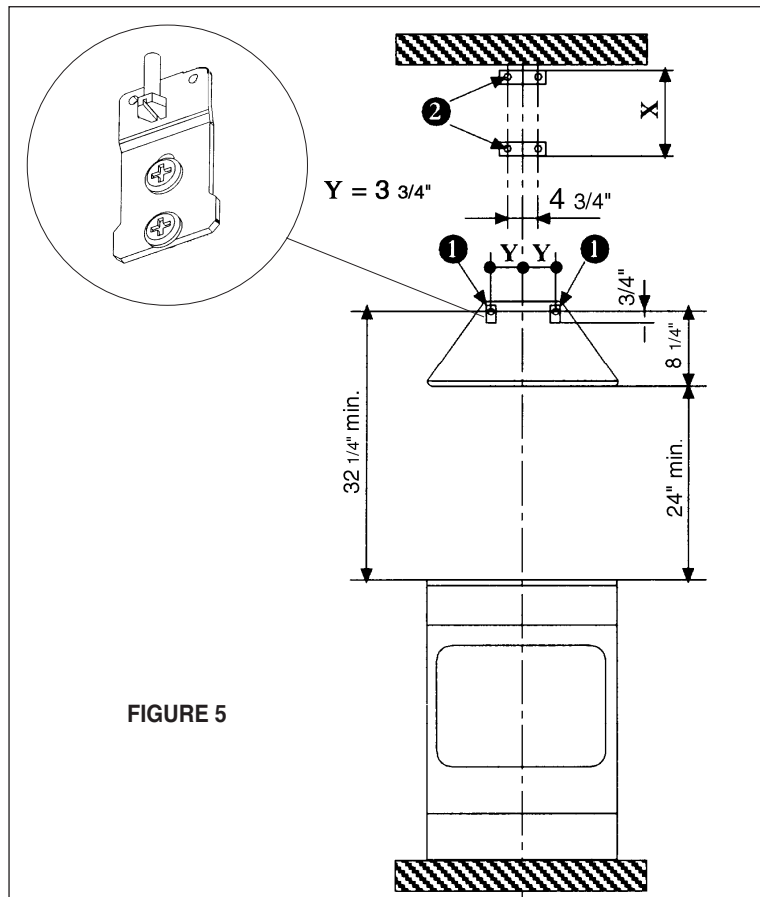

FIGURE 5
3. The canopy attaches to the wall by two mounting brackets (1 in **FIGURE 5**). The canopy of the rangehood hangs on the two brackets which must be mounted with the flanges on the top of the bracket and pointing away from the wall. Before installing the brackets, the adjustment screws must be installed into the bottom of the bracket. These two screws are provided in the hardware package and have hexagon heads with a slot for a flat blade screwdriver. The dimensions illustrate mounting the canopy 24" above the cooking surface.
4. The chimney mounts by two brackets (2 in **FIGURE 5**). Note the position of the brackets. The top bracket should be installed about 1/8" away from the ceiling. The bottom bracket must be installed at the bottom point of the upper chimney sleeve.